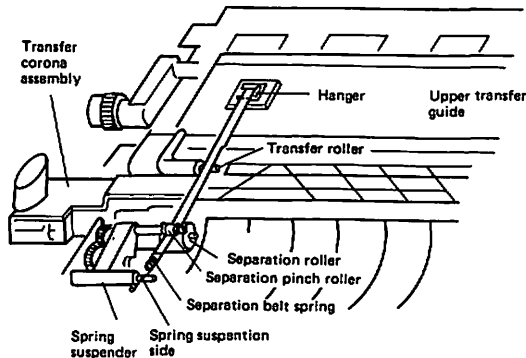

FIGURE 5-15
4. Hang loop A from the tab on the upper transfer guide (Figure 5-15). The indentation on the separation belt belongs on the right side.
5. Pass the separation belt over the transfer roller, and under the separation pinch roller (Figure 5-15).